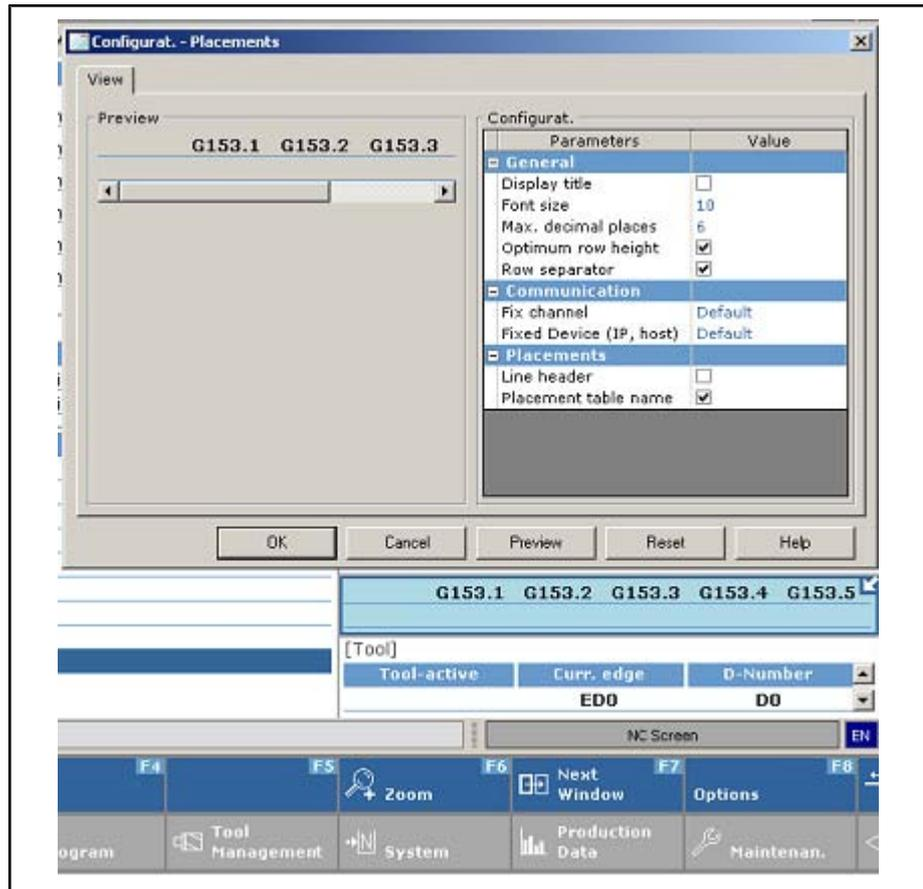

Fig. 7-60: Dialog: Configuration - Placement
2. Select the placement display by clicking with the mouse or by pressing <F7> (several times, if applicable) (Next window) (fig. 7-60 "Dialog: Configuration - Placement" on page 180).
- Select the font size for the displayed placements by double-clicking the currently set value (the value 8 in the example in fig. 7-60 "Dialog: Configuration - Placement" on page 180).